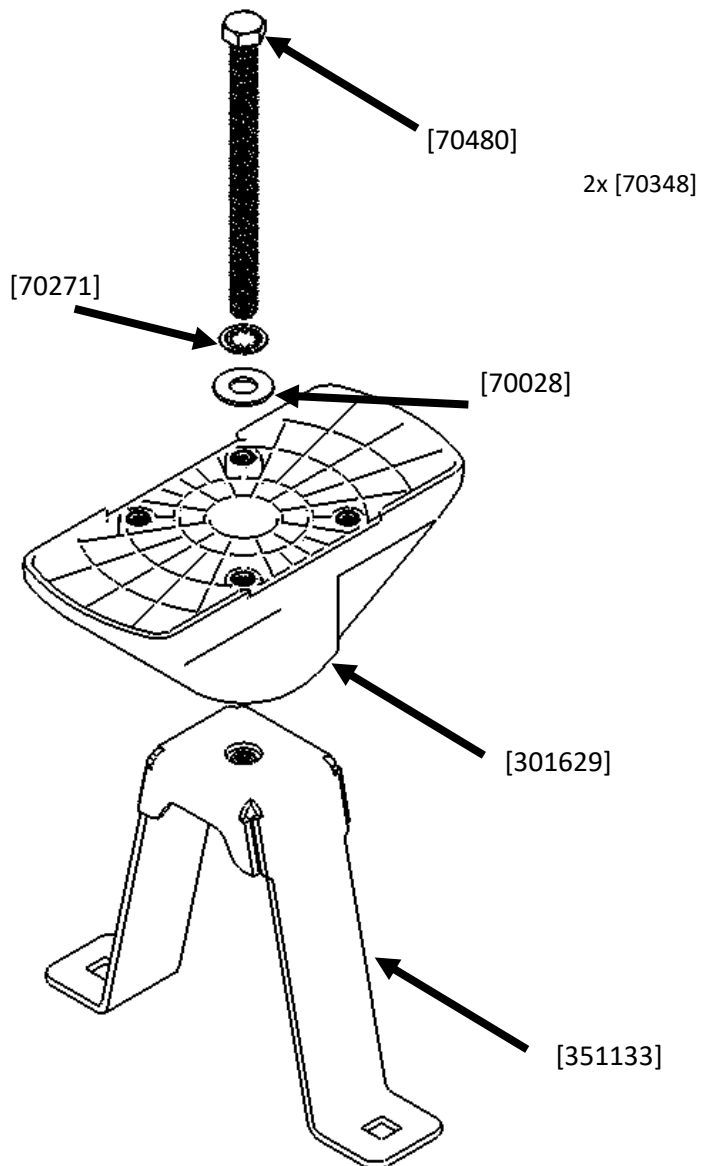

Figure 4: Wheel Wedge Assembly
37. Place the tire on the support stands and mount the wheel wedge, using the 5" hex head bolt, washer and star washer. Reference Figure 4 and 5.